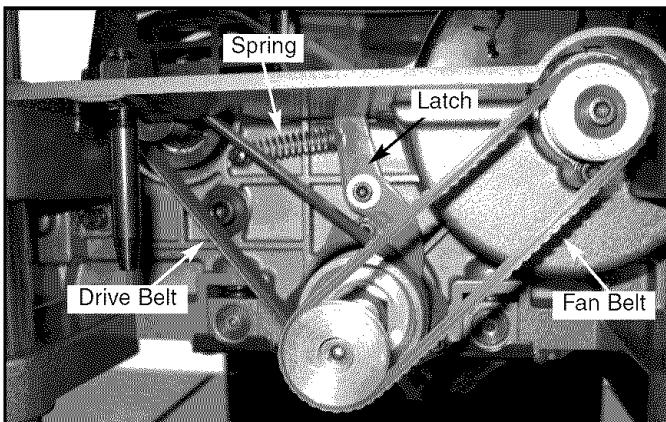

Figure 28 – Right Side of Planer with Side Cover Removed
- Disengage the spring from the latch so that the pulleys will turn freely (see Figure 28).